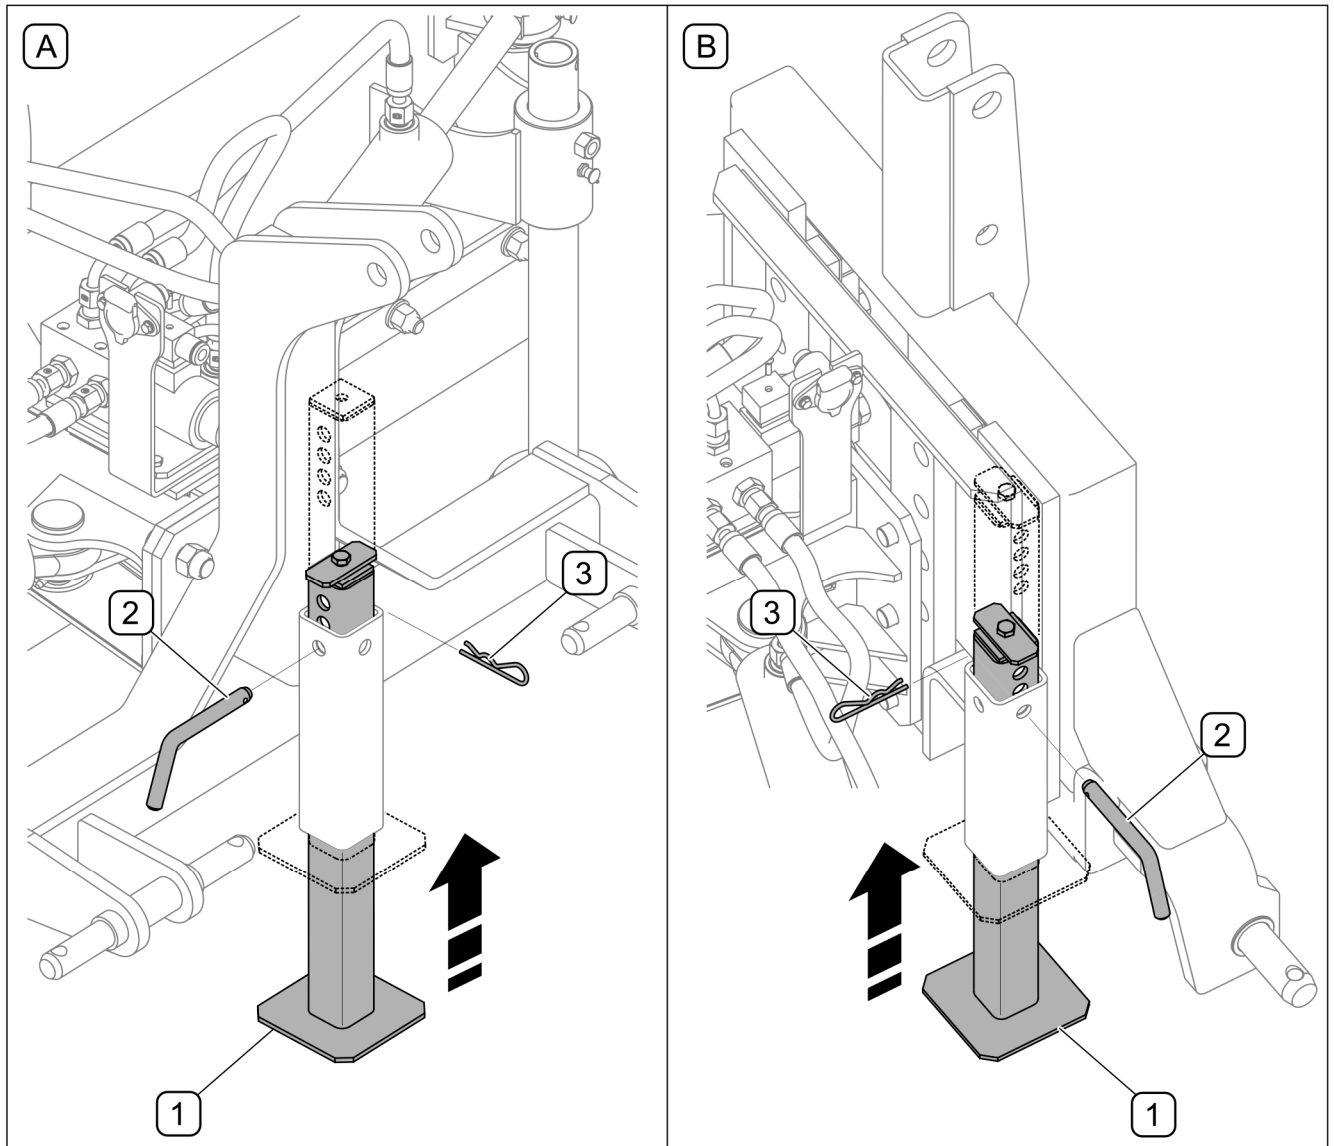

FIGURE 4.5 Raising parking stand
- Drive the tractor to bring the lower links of the three-point linkage closer to the lower points (A) or (B) (*depending on the three-point linkage category*) of the plough linkage.
- connect the lower points (A) or (B) (*depending on the three-point linkage category*) of the plough mounting with the lower links of the carrying vehicle.
- Connect the central upper link to the upper point (A) or (B) and secure.
- Raise parking stand and secure with pin and cotter pin (FIGURE 4.5).
- lower arm and turn frame downwards (A) so that mounting points on quick mounting frame are below the mounting points of the plough,
- lift the arm (B) so that the upper mounting points are in the plough hooks;
- controlling the loader frame tilt it back (C), causing the locking of the quick mounting mechanism,
- raise the parking stand (FIGURE 4.5),
To raise the parking stand (FIGURE 4.5):